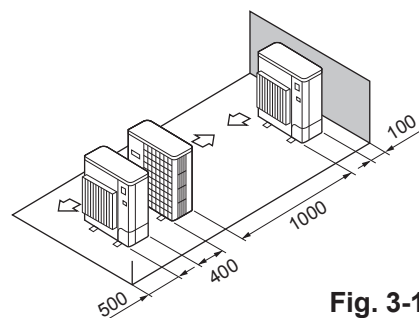

Fig. 3-16
- ⑤ Single parallel unit arrangement (Fig. 3-16)